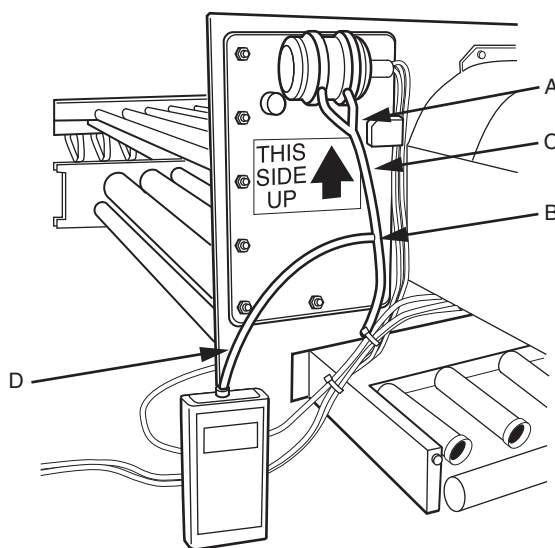

Fig. 51 — Draft Fan Pressure Measurement
1. Remove air pressure supply tube from fan at pressure switch connection. See Fig. 51, A.
2. Insert "T" into supply tube. See Fig. 51, B.
3. Attach additional piece of tubing from "T" to pressure switch. See Fig. 51, C.
4. Connect remaining leg of "T" to pressure measuring device (measure in. wg). See Fig. 51, D.